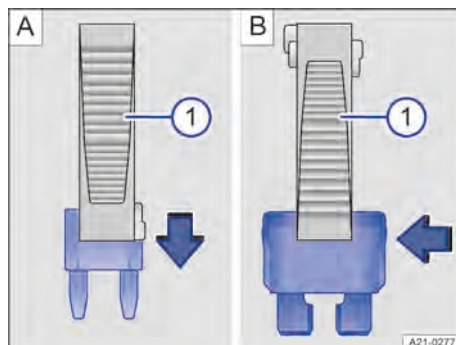

Fig. 184 Removing or inserting fuse (illustration).
1. If applicable, take the plastic pliers → Fig. 184 ① out of the fuse box cover.
2. Push the plastic grippers clip suitable for the fuse type onto the fuse from the top → Fig. 184 (A) or the side → Fig. 184 (B).
4. If the fuse has blown, replace it with a new fuse of the same amp rating (same colour and same markings) and same size → ①.